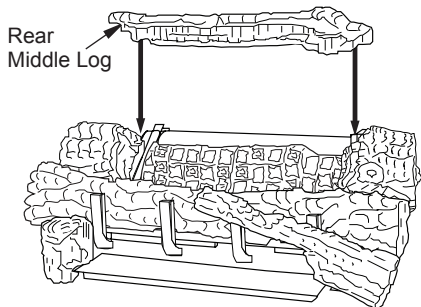

Figure 31 - Installing Rear Middle Log
7. The rear middle log (18" D-068, 24" & 30" D-042) should fit between the ramp log and the rear burner. The left and right middle logs have recessed areas for the rear middle log to sit into (See Figure 31). There may be a small gap between the rear middle log and the ramp log, this is normal.. Be careful not to push the rear burner out of position while installing this log.